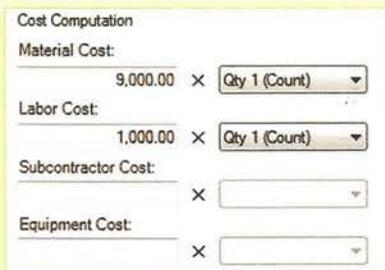

Fig 5: Cost
- In the 'Takeoff Items Properties' of the 'D' group, enter the values for the material and labor costs (Figure 5).